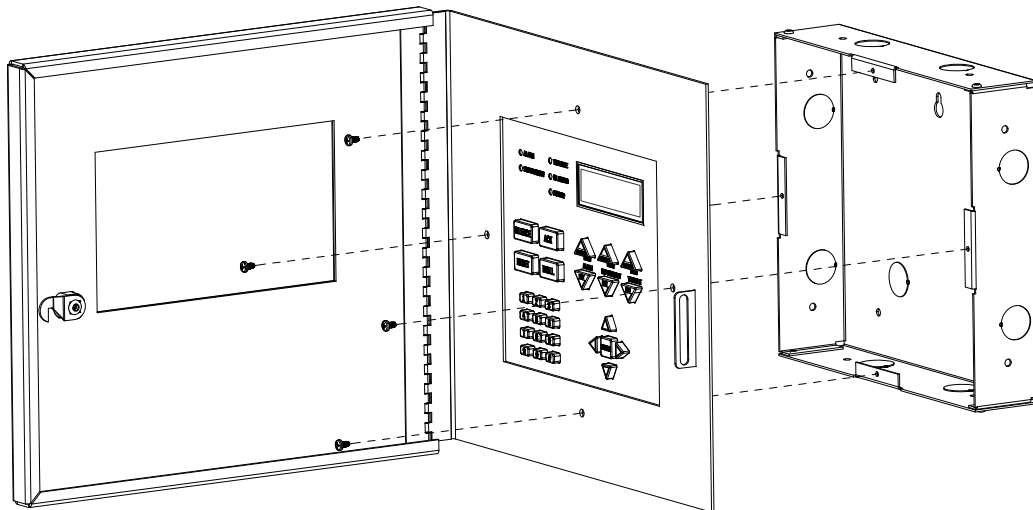

Figure 4.14 Attaching Annunciator/Door Assembly to Backbox
- Attach the door assembly to the backbox using the screws provided. Refer to Figure 4.14.